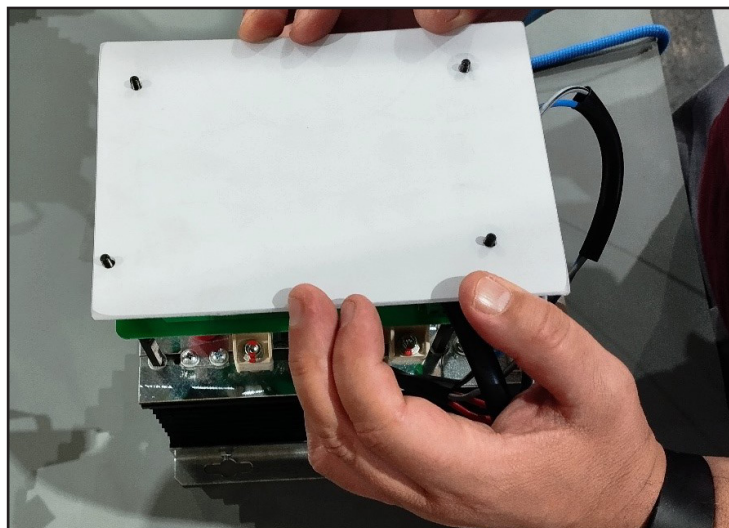

Figure 6: Step 6.
6.- Place the polycarbonate board on the 30 mm rods, Figure 6.